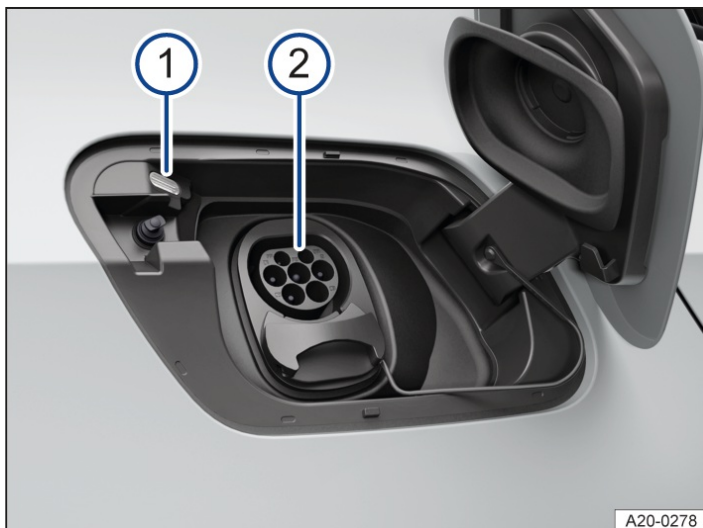

Fig. 1 Behind the charging socket flap at the rear right: charging socket.
- ① Charging process display (→ Charging process display).
- ② Charging socket.
Charging station, wall box, mains socket: The vehicle's high-voltage battery can be charged with alternating current (AC) via the top connection in the charging socket → Fig. 1 ②.